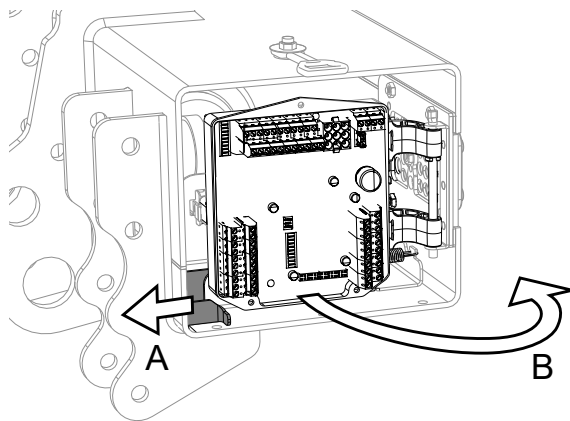
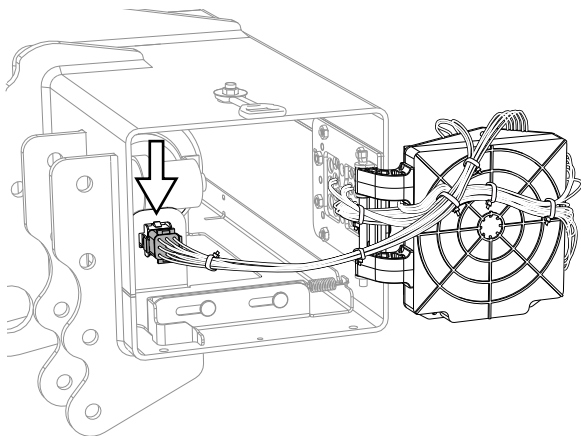

Figure 20. Release mechanism
Figure 21. Connection socket
3. Fold out the control card / relay card (B) and loosen the cabling at the connector on the hydraulic unit; see Figure 20 and Figure 21.